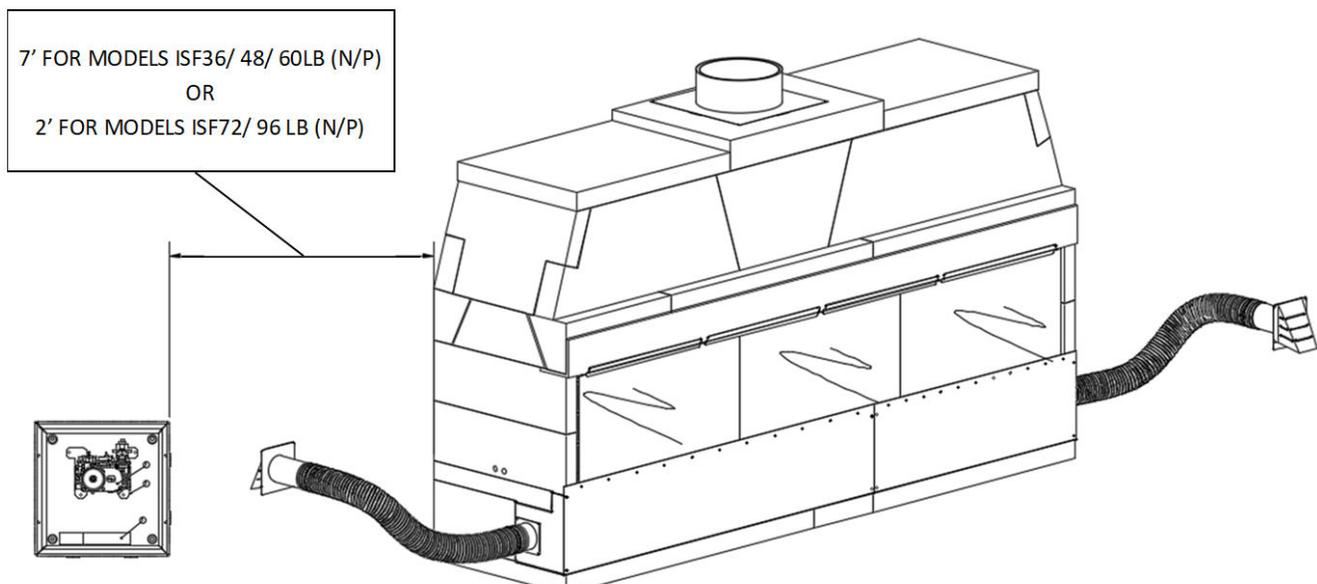

FIGURE 44
- 1) The valve control box comes with an 110" pilot assembly lead; therefore, the box must be mounted within 7' of the fireplace for burner models ISF36/48/60LB (N/P) and within 2' for models ISF72/96LB (N/P). This location should be within 4' (48") of the Meridian Control Panel. Valve controls are contained in a 12" x 12" x 4" NEMA 1 enclosure. **(Figure 44)**